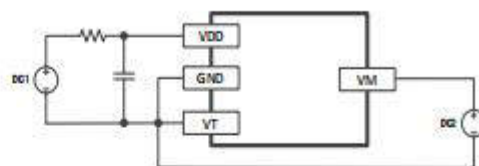

Figure6-2
- According to the figure6-2, connect the power supply DC1 to the B + and GND pins of the system board and set the voltage to about 3.6V. Connect the DC2 power supply from VM to GND, set the 100mV current limiting 10mA, and observe the waveform.